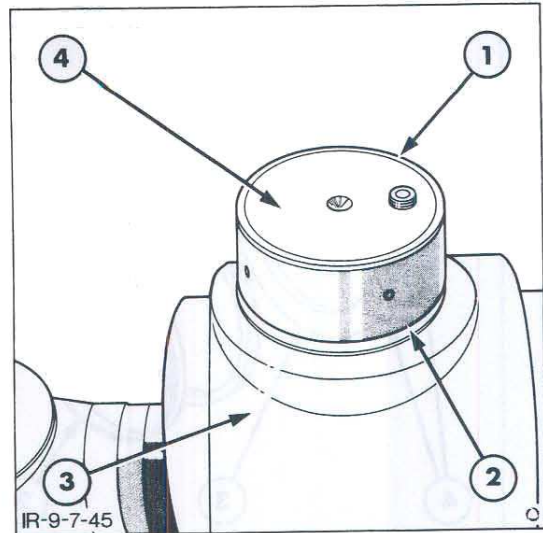

Figure 44
3. Inspect the swing cylinder headstock trunnion bushes. If wear is apparent, pull the bushings from the trunnions and remove the grease seal. Thoroughly clean the grease channels, install new grease seals and press on new bushings flush with the horizontal surface of the trunnion, Figure 44.